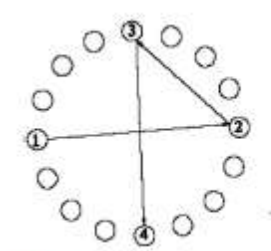

Fig. 4 Initial Tightening
- Tighten the first four nuts in the sequence shown Fig.4. This helps in correct location of the mating parts.